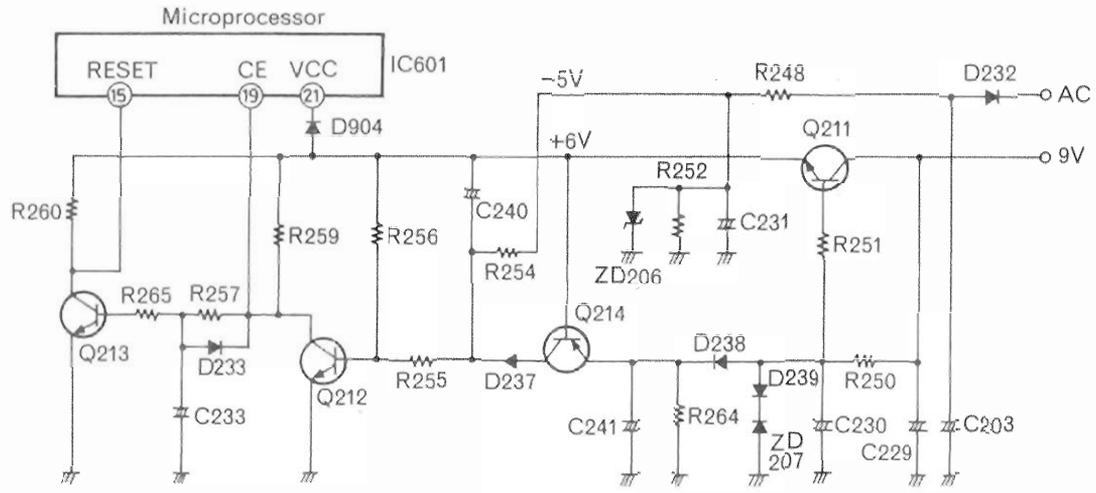

Fig. 1
Terminal ① (CE) of IC601 shown in Fig. 1 is the back-up input terminal; when this terminal is set to Lo level, the unit enters the back-up mode. Terminal ② (RESET) is the reset input terminal; when the power is turned on, the back-up mode is released, this terminal changes to Lo from Hi and the START program instruction is given.